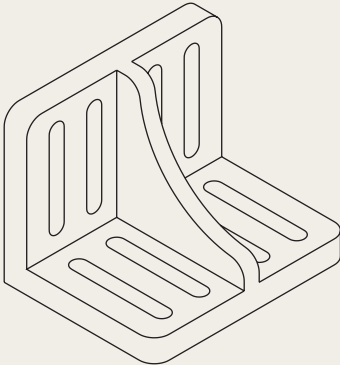

Fig. 7.28 An isometric drawing of the angle plate on which exercises 6 and 7 are based
- 7. Construct an isometric drawing of the angle plate shown in Figs 7.28 and 7.29.